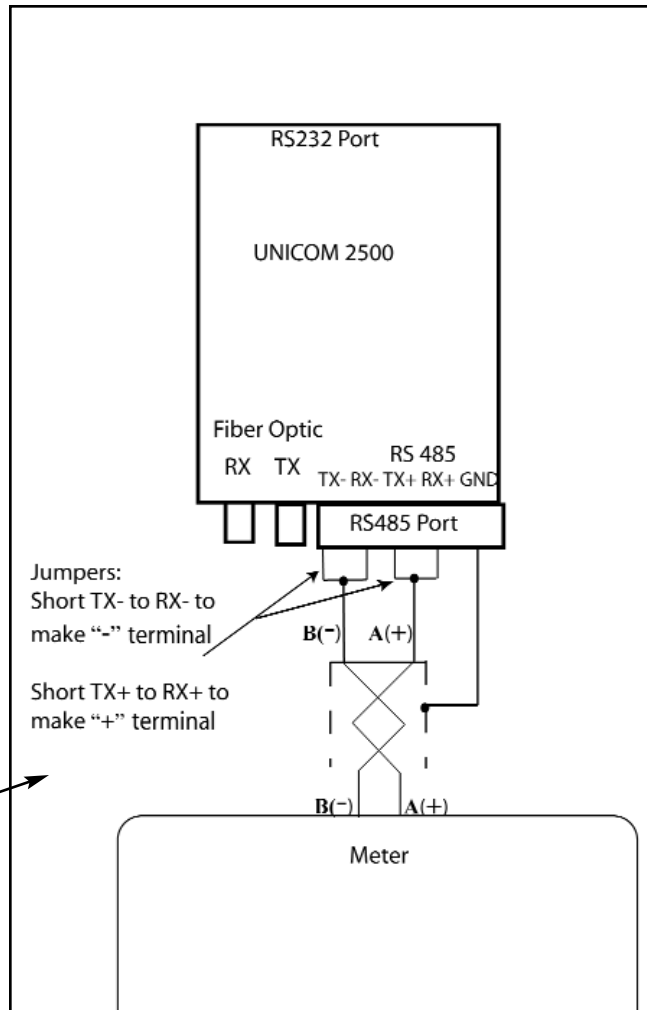

Figure 5.9: Detail of "Jumpers"
As shown in Figure 5.9, you connect the "RX-" and "TX-" terminals with a jumper wire to make the "-" terminal, and connect the "RX+" and "TX+" terminals with a jumper wire to make the "+" terminal
- Insert the other end of the cable into the I/O module's female RS-485 side port (see Figure 5.9). The connectors fit only one way into the ports.
- Connect the A(+) and B(-) terminals on the Nexus to the A(+) and B(-) terminals of the female RS-485 port. Connect the shield to the shield (S) terminal. The (S) terminal on the Nexus 1250/1252 is used to reference the Nexus port to the same potential as the source. It is not an earth ground connection. You must also connect the shield to earth-ground at one point.